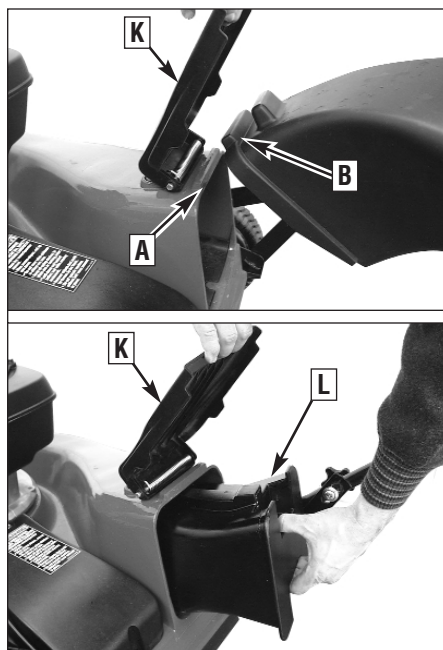

Figure 4-1: Cub Cadet® Rapid Attach™ System.
The Rapid Attach System (Figure 4-1) is a feature designed into the mower deck which enables you to install and remove the Grass Catcher, the Side-Discharge Chute and the Mulching Plug quickly and easily.
The Grass Catcher and the Side-Discharge Chute both use the same system. This system consists of an elongated tab (A, Figure 4-1) on the top of the discharge outlet and a receptacle (B) built into the top of the Grass Catcher door and the Side-Discharge Chute.
Attaching the Mulching Plug is just as easy. Hold open the discharge outlet guard (K, Figure 4-1) and insert the plug (L), with the word "TOP" facing up, into the discharge outlet.
2. Lift open the discharge outlet guard (K, Figure 4-1).
2. Lift open the discharge outlet guard (K, Figure 4-1) and lower the Side-Discharge Chute opening (B, Figure 4-1) onto the discharge outlet tab (A). Make sure it covers the tab completely.
1. With the engine and blade stopped, lift open on the discharge outlet guard (K, Figure 4-1).